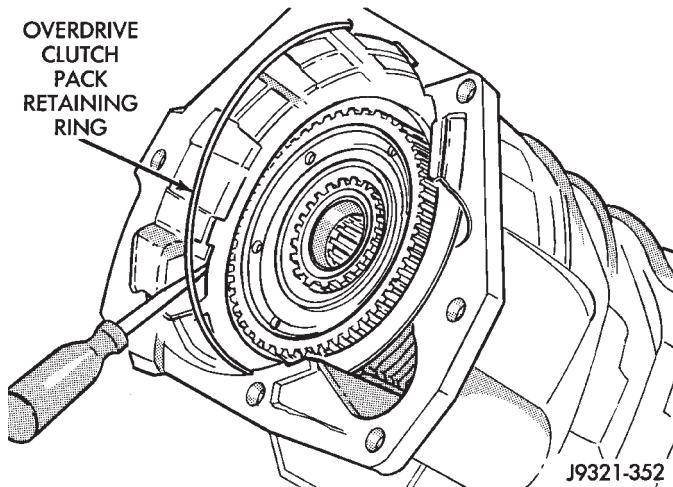

Fig. 251 Removing Overdrive Clutch Pack Retaining Ring
- (1) Remove overdrive clutch pack wire retaining ring (Fig. 251).